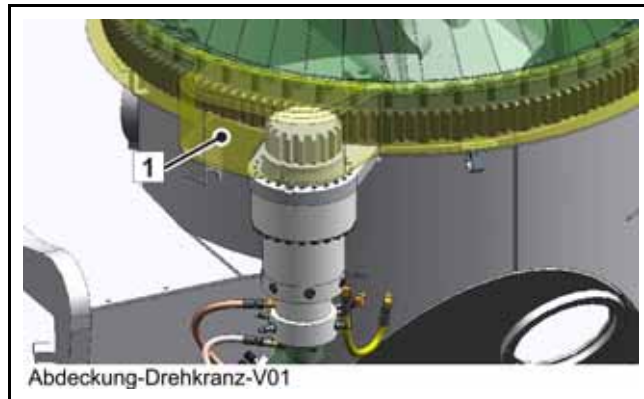

Fig. 376 Slewing ring support cover
The tothing of the rotary drive can be accessed after removing the covering cap (1) via the toothed wheel of the slewing gear (**Fig. 376**).